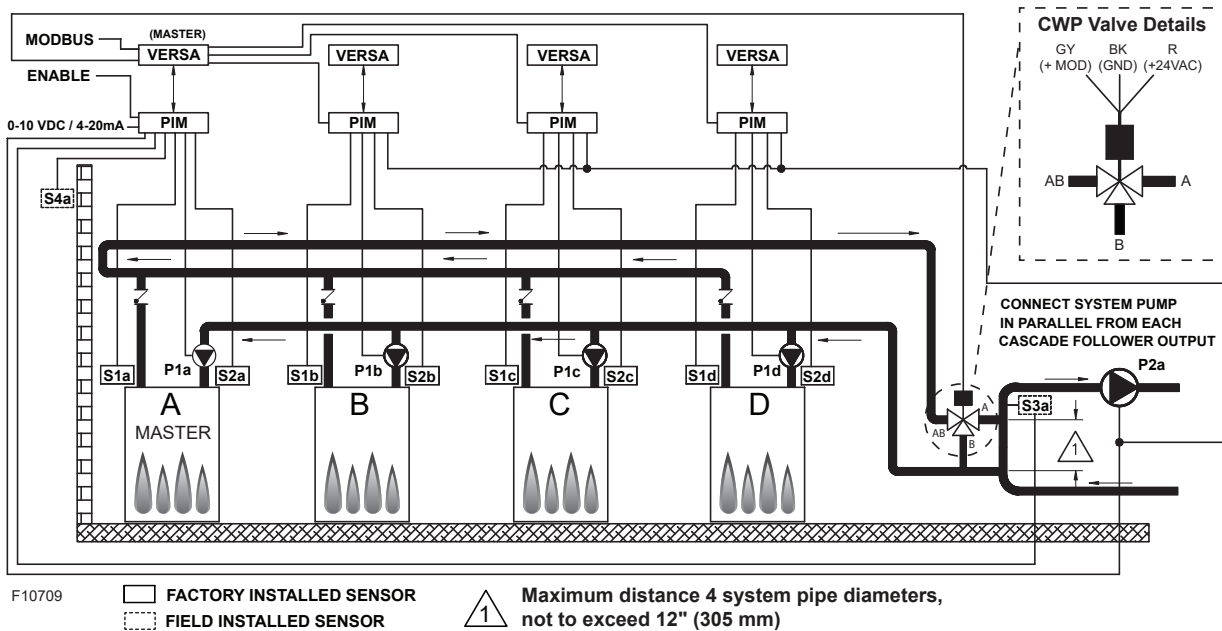

Figure 19. Mode 1 - Hydronic Multi-Boiler - Primary/Secondary (MIX TYPE = PLNT)
**Figure 17 through Figure 19** shows the 4 boiler cascade systems for reference, but these configurations can be expanded up to 8 boilers with or without CWP. The CWP diagrams show either an individual 3-way valve at the boiler (MIX Type = VALVE) or a single 3-way valve providing CWP to all connected boilers within the cascade (MIX Type = PLNT).